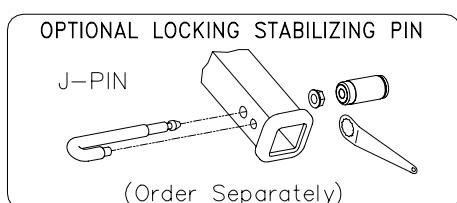

FIGURE 1.
3. RAISE HITCH INTO POSITION AND INSTALL FASTENERS AS SHOWN ABOVE. (SEE FIGURE 1.)